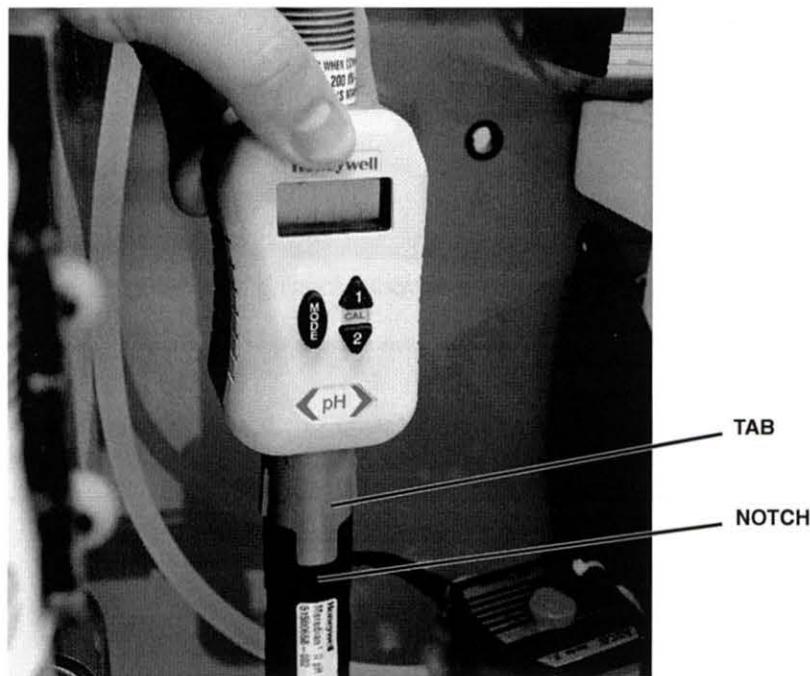

Figure 40. Attach Indicating Transmitter to Electrode Housing
When inserting, the notch in the housing should be pointing forward so the display on the transmitter will face forward when the transmitter is installed (see figure 40).
- ❑ 6. Locate the indicating transmitter, shown in figure 40, and attach it to the top of the electrode housing.